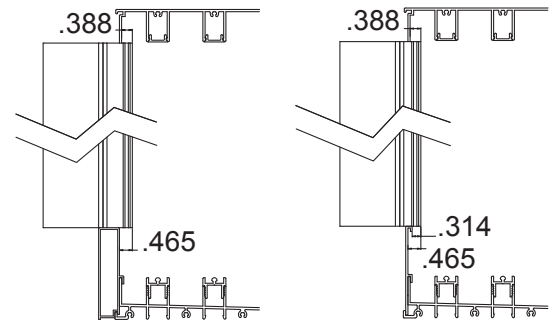

Figure 15
12. If a panel is not available to set the location of the p-hook from inside to outside then align the p-hook with the riser and header as shown. (See Figure 15)